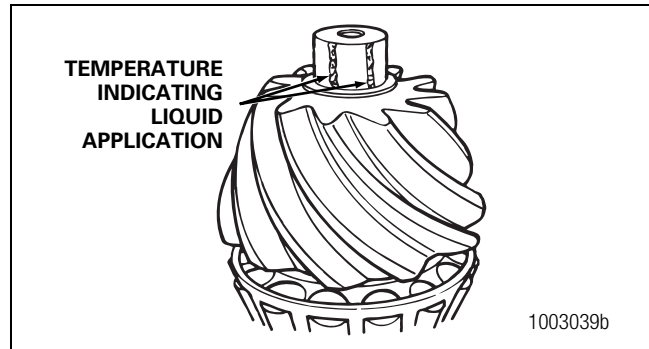

Figure 5.8
- Apply two stripes of temperature indicating liquid on the pinion stem from the top to the bottom. Figure 5.8. Apply a green stripe to indicate 400°F (205°C) and a blue stripe to indicate 500°F (260°C).